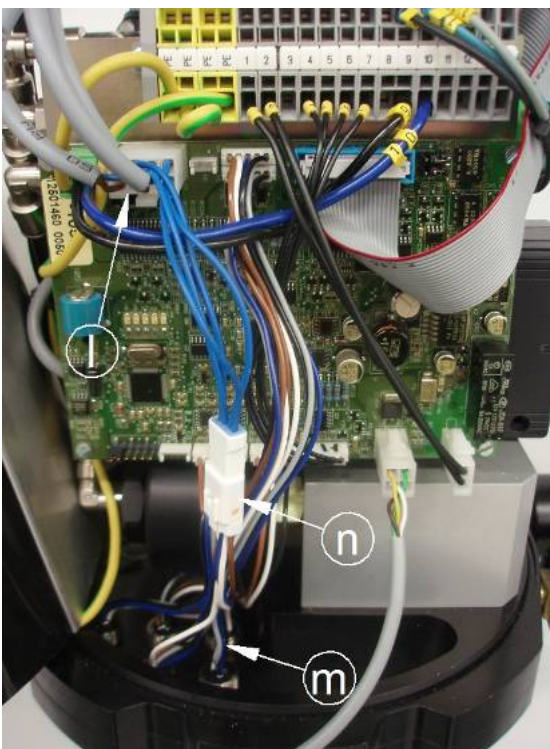

Figure 20 Connecting the wiring set
- 10 Connect the wiring set's circuit board connector to socket (l) as shown in Figure 20.